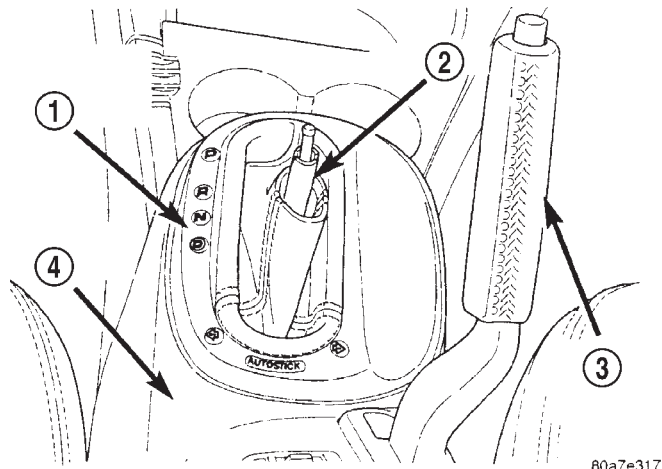

Fig. 124 Shift Range Indicator
(3) Remove the shift range indicator from the center console. The shift range indicator is attached to the center console using retaining clips. It is removed by carefully prying it off the center console. The shift range indicator covers the 2 screws attaching the center console to the shifter mechanism. (Fig. 124).
(13) Install the transmission range indicator (Fig. 124) in the center console.